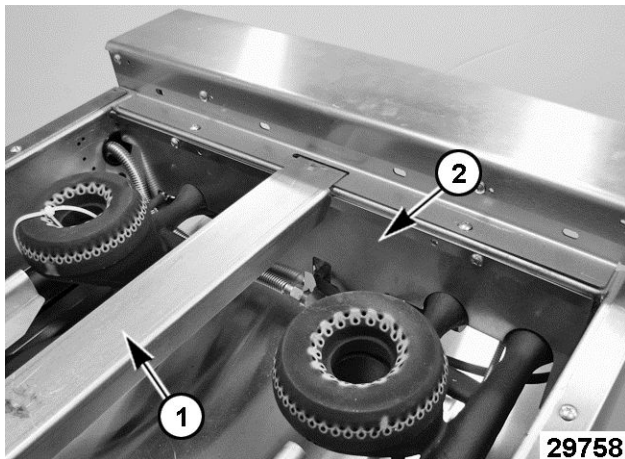

Fig. 63
4. Lift grate support (1, Fig. 63) from range top.
5. Remove heat shield (2, Fig. 63).